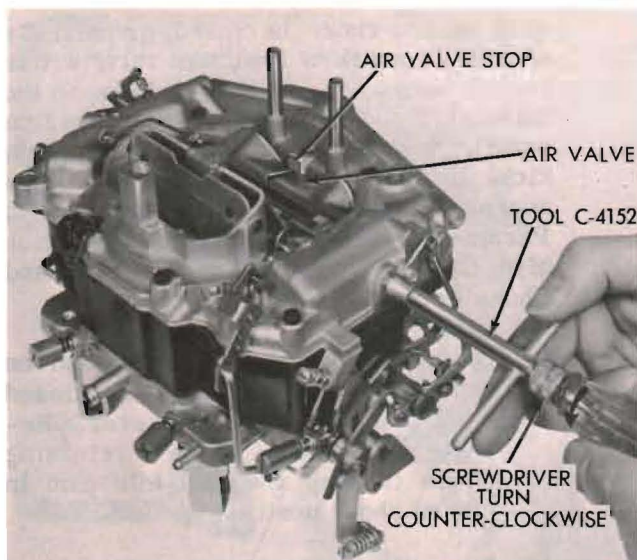

Figure 20. Adjusting Air Valve Spring Tension
- (1) Loosen the air valve lock plug (figure 20) and allow the air valve to position itself to wide open position.